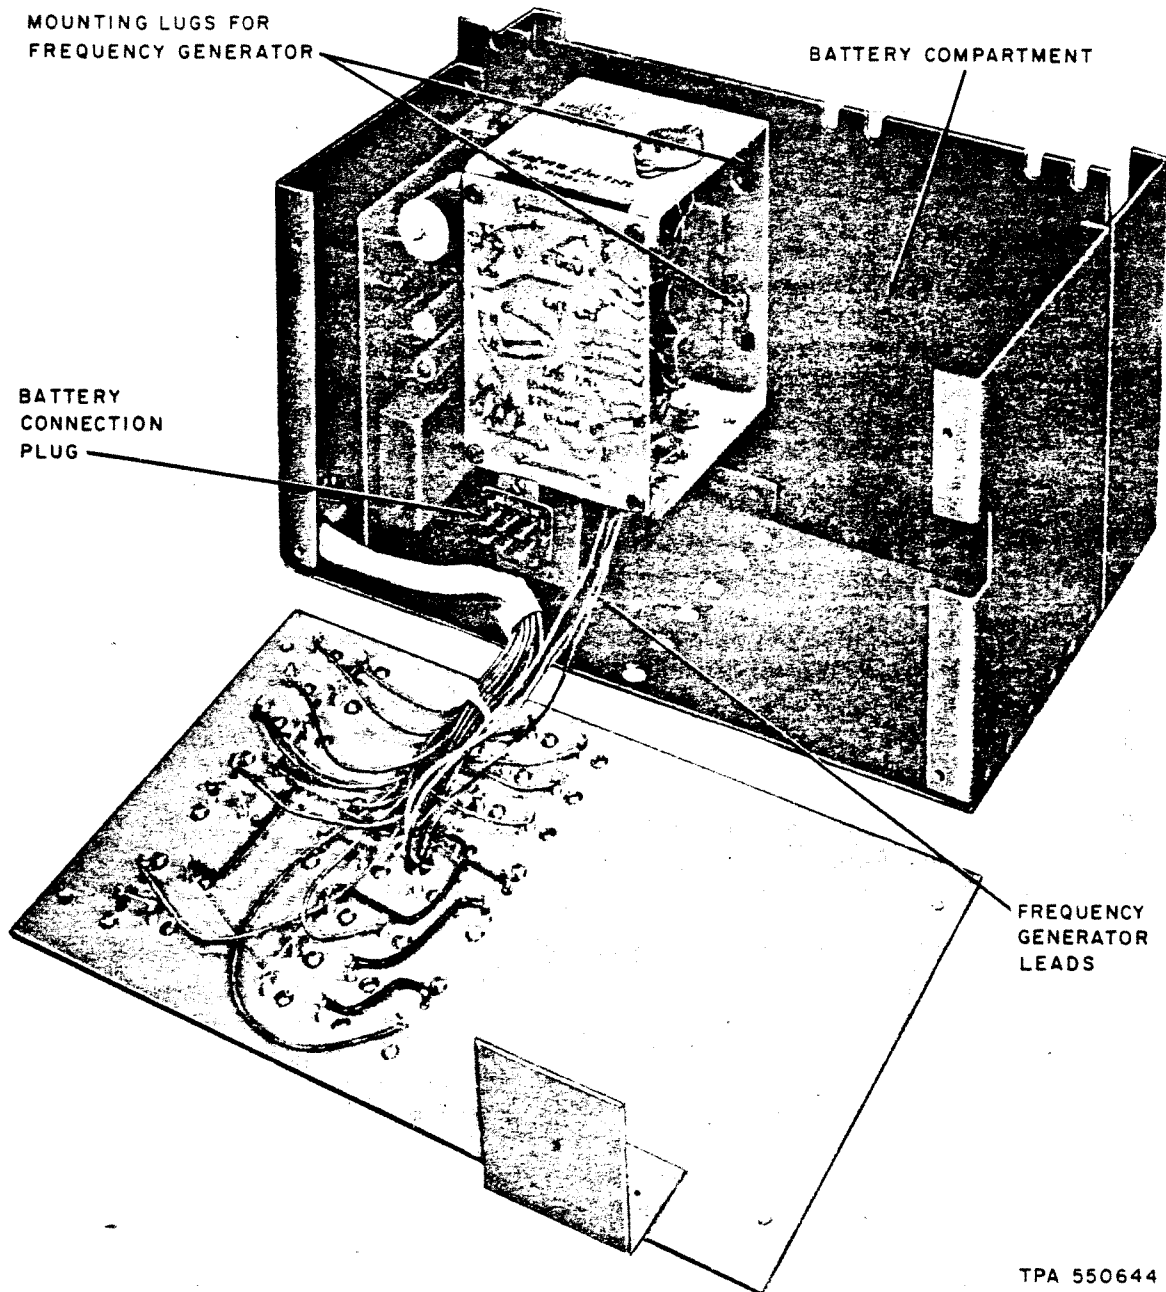

Fig. 2—47C Power Unit (Front Cover Removed)
**2.04** The front panel (Fig. 2) of the power unit, mounting the input and output screw terminals and fuses, is removable.
**2.07 Battery (KS-20390, List 1):** Consists of a 24-volt (dc reserve) and a 10-volt dc (lamp reserve) battery in a single case. The battery is mounted in the battery compartment and connected to the power unit with a connector ended cable (Fig. 2). The battery will provide approximately three years of service at ambient temperatures ranging from 32° to 140°F. A label is provided on the battery for recording the installation date.
- (1) Remove front cover from 47C power unit (Fig. 2).
- (2) Place battery in power unit battery compartment and connect battery connector to mating battery connection plug.
- (3) Replace front cover.
- (1) Remove front cover from power unit (Fig. 2).
- (2) Record installation date on label provided on battery.
- (3) Place **fully charged** battery (see 3.03) in battery compartment and connect battery connector to mating battery connection plug.
- (4) Slide frequency generator (if used) in place on mounting lugs.
- (5) Insert frequency generator leads through hole in front panel.
- (6) Replace front cover on power unit